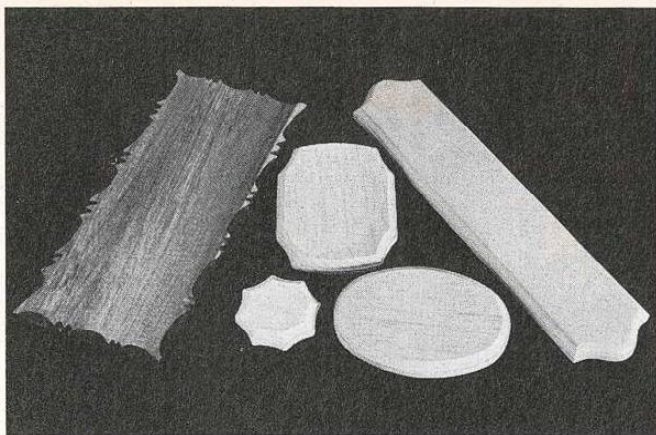

Fig. 1. Craft bases come in many sizes, shapes, and woods. They are ready to stain and finish.
**Craft bases.** The simplest and most obvious place to start is with what are commonly called craft bases. These are pre-cut, pre-routed, decorative pieces of wood that can be found in most hobby and craft shops. They come in a wide assortment of shapes, sizes, and patterns, Fig. 1, and when finished properly, become attractive bases for dioramas, figures, or models. The materials I use to finish craft bases are shown in Fig. 2.